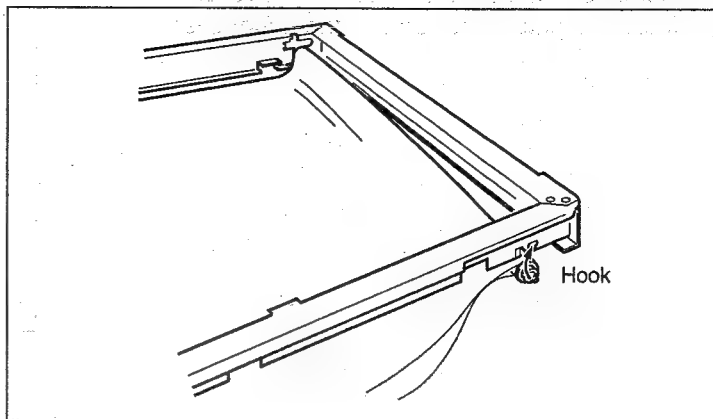

Fig. 7-23
- 1) Insert the roller into a new screen (film), then hook the roller shaft as shown in Fig. 7-23.